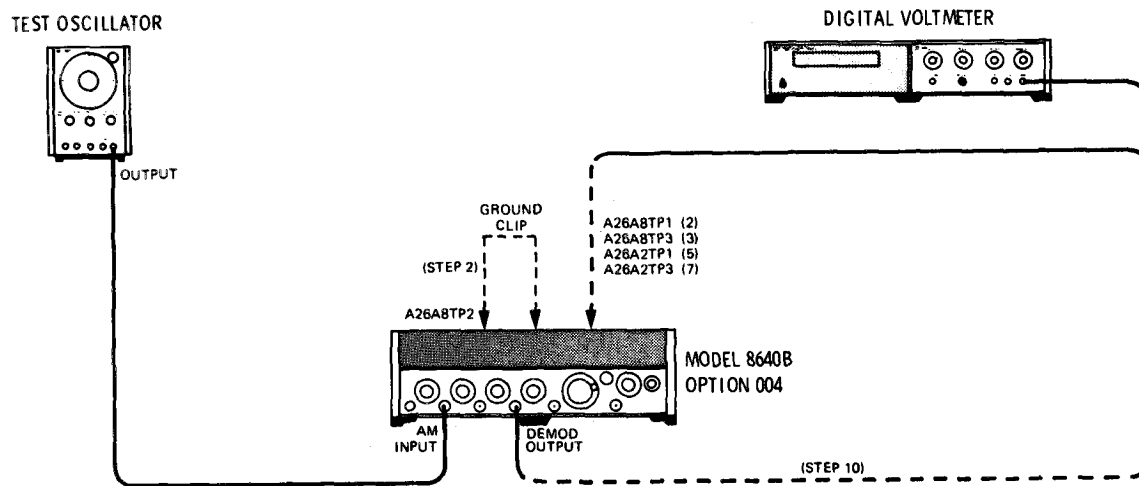

Figure 5-3. Preliminary AM Adjustments
1. Connect the equipment as shown in Figure 5-3 after setting the Signal Generator controls as follows: